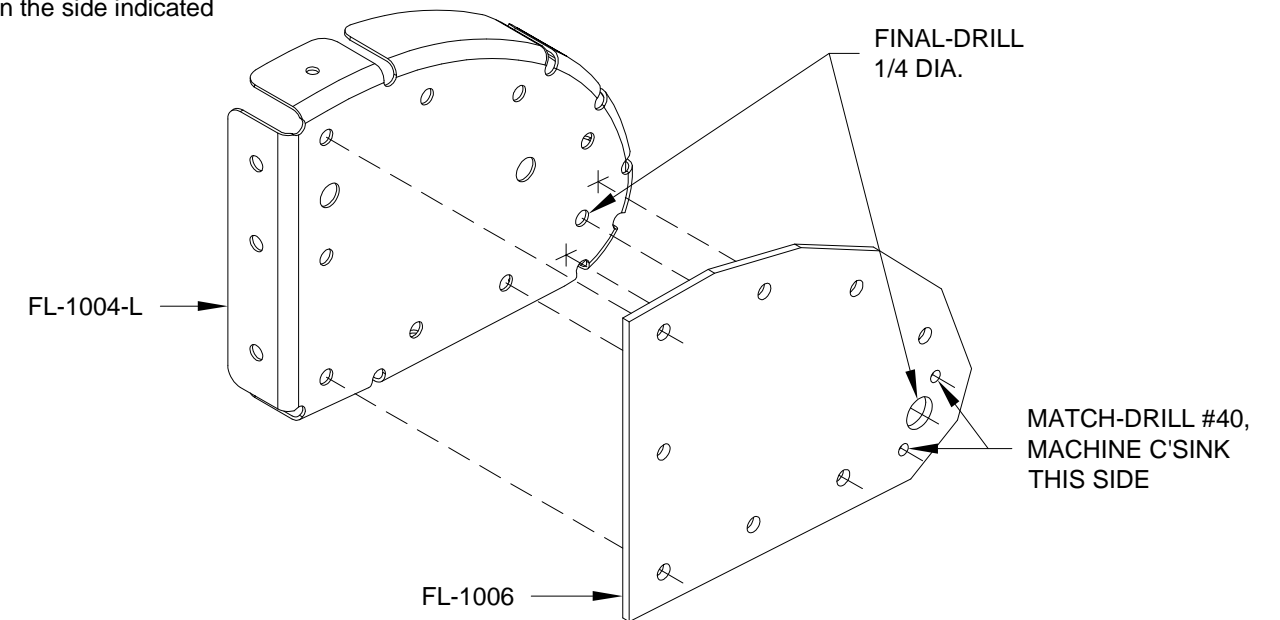

FIGURE 4: OUTBOARD ROD END RIB SUBASSEMBLY
Step 4: Make the outboard rod end rib subassembly by clecoing an FL-1006 Doubler to an FL-1004-L Nose Rib as shown in Figure 4. Final-Drill #30 the 1/8" holes common to the two parts.